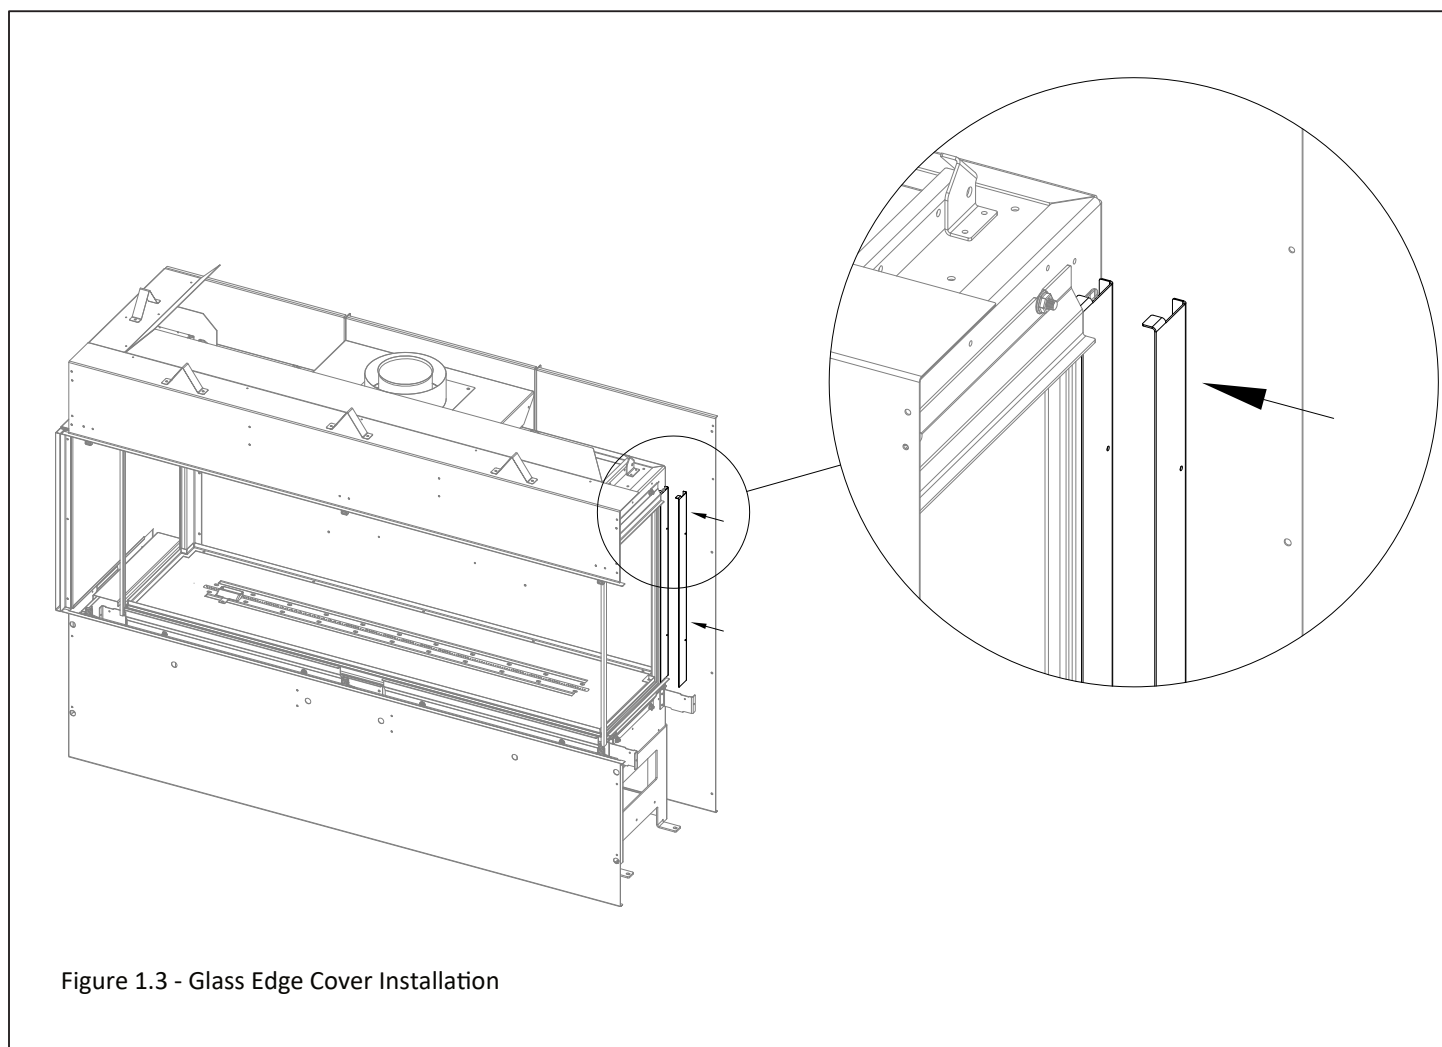

Figure 1.3 - Glass Edge Cover Installation
Each conversion kit will include (1) glass edge cover. Figure 1.3 shows the installation of this cover in a right corner application. The purpose of this cover is to provide a finished appearance on the back edge of the glass.